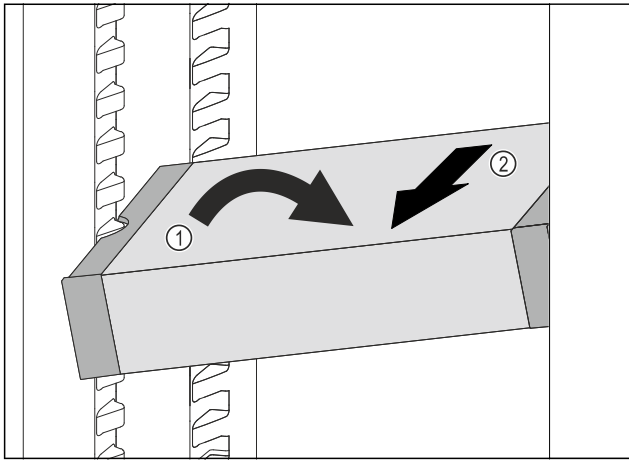

Fig. 102
- ▶ Set VarioSafe in refrigerator compartment at an angle. Fig. 102 (1)
- ▶ Take VarioSafe out to the front. Fig. 102 (2)